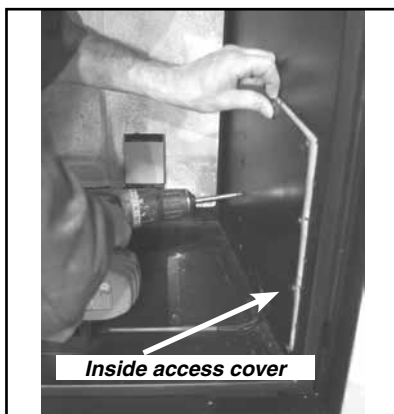

Figure 19
22. Remove the inside access cover from inside the firebox by removing (10) screws as shown in Figure 19